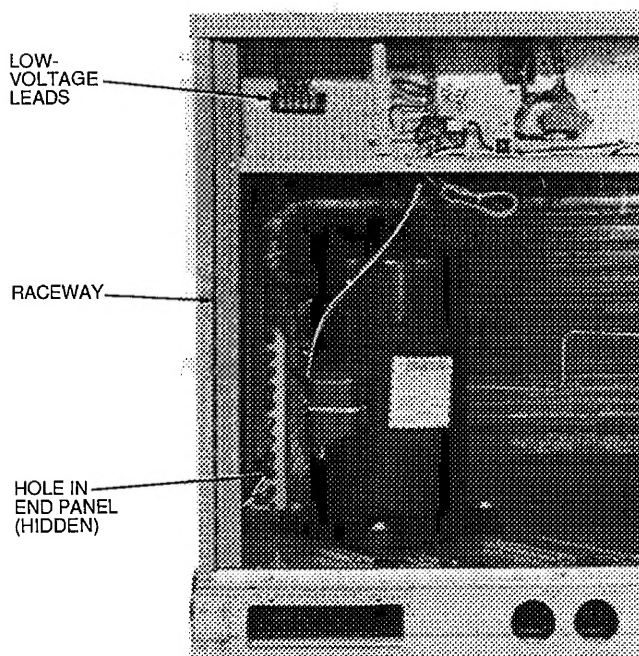

Fig. 5 — Field Control Wiring Raceway
3. Feed wire through the raceway built into the corner post to the 24-v barrier located on the left side of the control box. See Fig. 5. The raceway provides the UL required clearance between the high- and low-voltage wiring.